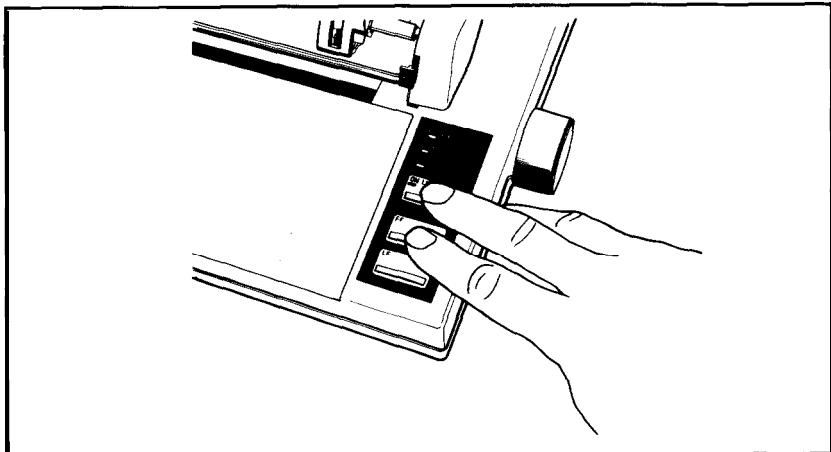

Figure 2-1. Turning *SelecType* on
2. Press both the ON LINE and FF buttons **at the same time**, as illustrated in Figure 2-1.